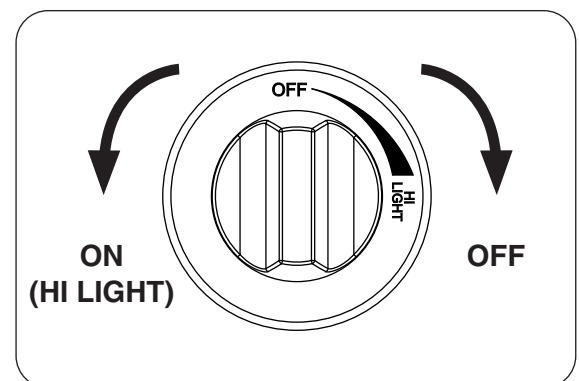

Fig. 51-2
4. **Once the match is burning and in position**, depress the gas control knob and turn it counter-clockwise to the **HI LIGHT** position (see Fig. 51-2). Your burner should light.
To extinguish your gas burner, depress the gas control knob and turn it clockwise to the **OFF** position (see Fig. 51-2). Be sure the control knob is turned fully off to avoid any gas leakage.